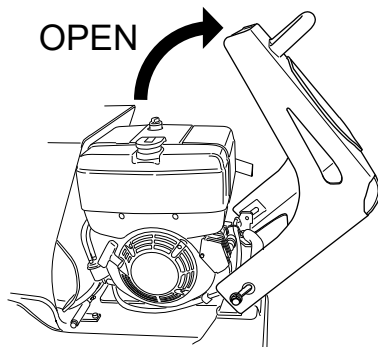

Figure 23. Opening the Front Cover
3. Open the front cover slowly (Figure 23).